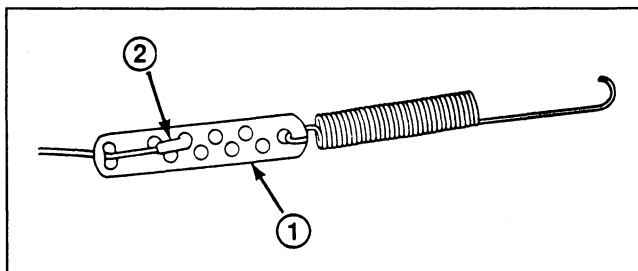

Figure 10
3. ADJUST CABLE (Fig. 10)—Unhook spring end from the top hole in control bar bracket. Slide spring cover off cable to expose cable adjuster. Unhook Z fitting from cable adjuster and reposition Z fitting in a higher or lower hole on adjuster to obtain proper gap of $1/16'' - 1/8''$. Reinstall spring cover over cable adjuster. Rehook spring into top hole of control bar bracket.